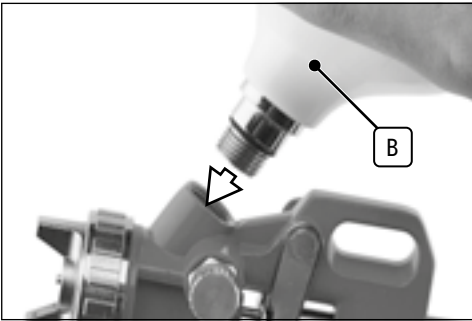

Fig. 6
1. Attach the paint cup **B** to the threaded socket at the top of the spray gun body (Fig. 6).